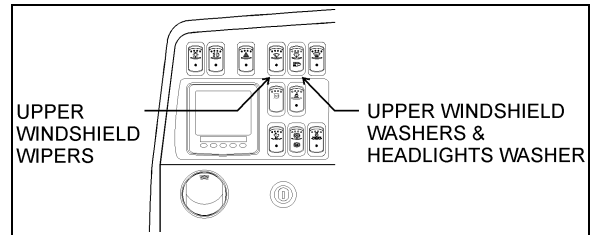
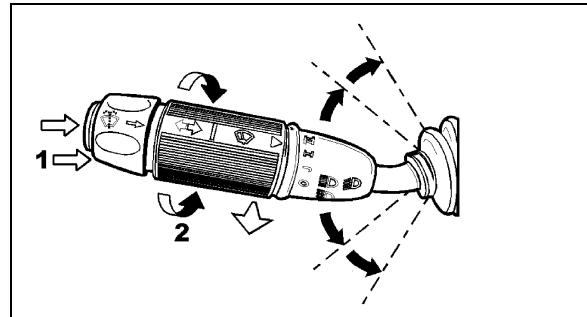

FIGURE 33: DASHBOARD
FIGURE 34: MULTIFUNCTION LEVER
Depress the upper windshield wiper switch located on the dashboard L.H. side to the first position for intermittent wiping, and to the second position for continuous wiping (Figure 33).
Rotate the multifunction lever forward to activate lower windshield wipers (arrow 2, Figure 34). The first position operates the wipers at low speed and the second position operates the wipers at high speed. Turning the lever backwards will operate the wipers in the intermittent mode.
To activate the upper windshield washer pump, depress and hold the top of the rocker switch on dashboard L.H. side (Figure 33). The upper wipers will come on automatically and will shut off a few seconds after releasing the rocker switch. The lower windshield washer pump is electrically operated and is controlled by a washer control ring on the multifunction lever (item 1, Figure 34).